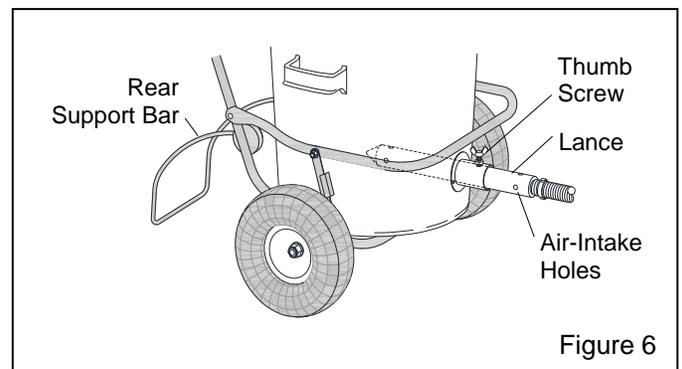

Figure 6
4.3 Insert Lance into Optional Hopper – Figure 6